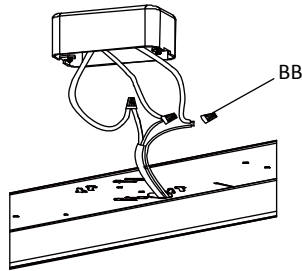

Figure 10
3. Remove the heat shrink tubing wrap from the ends of the black, white, and green wires in order to expose the copper wires prior to connect the AC wires to the corresponding wires (BLACK to BLACK, WHITE to WHITE and GREEN to GREEN) in the junction box and secure using wire nuts (Part BB). (Figure 10)
NOTE: - For proper connection, place the wire nuts (BB) over wires and twist clockwise until tight. (Figure 10)